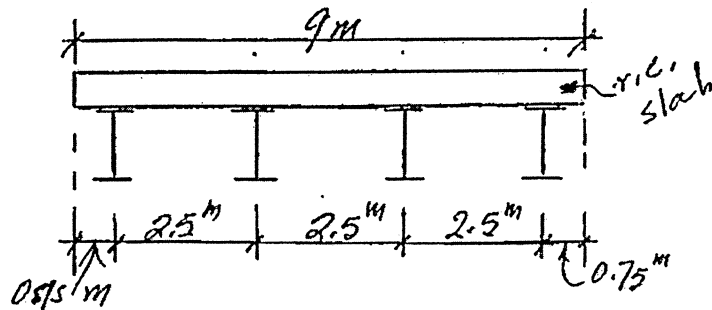

FIGURE 3
3. The cross-section of a heavily-loaded floor of a warehouse, Figure 3, is to be designed in a composite steel-reinforced concrete construction. Using unshored construction: